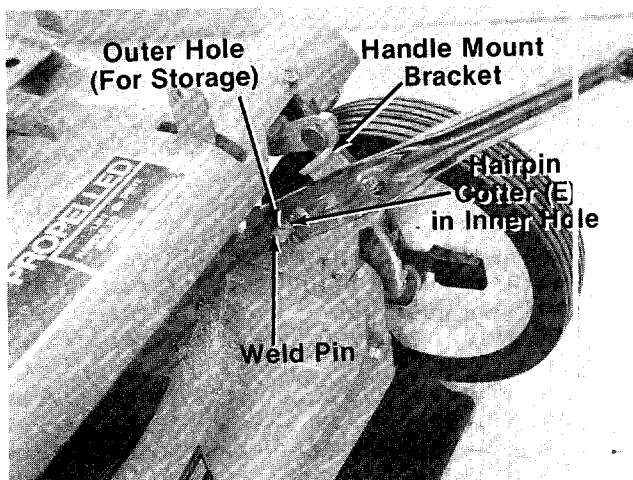

FIGURE 2.
- B (2) Curved Carriage Bolts 5/16-18 x 1.38" Long
- C (2) Lock Washers 5/16" I.D.
- D (2) Hex Nuts 5/16-18 Thread
- E (3) Hairpin Cotters
- F (2) Cable Ties
- G (1) Ferrule
- H (1) Clutch Rod (Not Shown)
- I (4) Hub Caps (Optional—Not Shown)
3. Place lower handle in position over weld pins in handle mount brackets on deck. Make certain the instruction label on the lower handle can be read from the operating position. Secure by placing two hairpin cotters (E) in inner hole on weld pins. See figure 2.